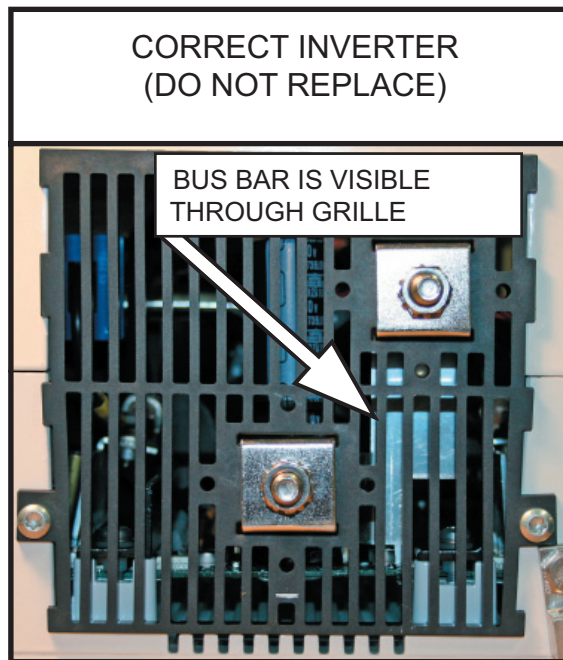

Figure 1
NOTE: The orientation of the images in Figures 1 and 2 and the orientation of the motor home inverter may differ due to mounting position of inverter installation.
- A. If a bus bar can be seen through the grille, as shown in Figure 1, the inverter is correct and no further action is necessary.